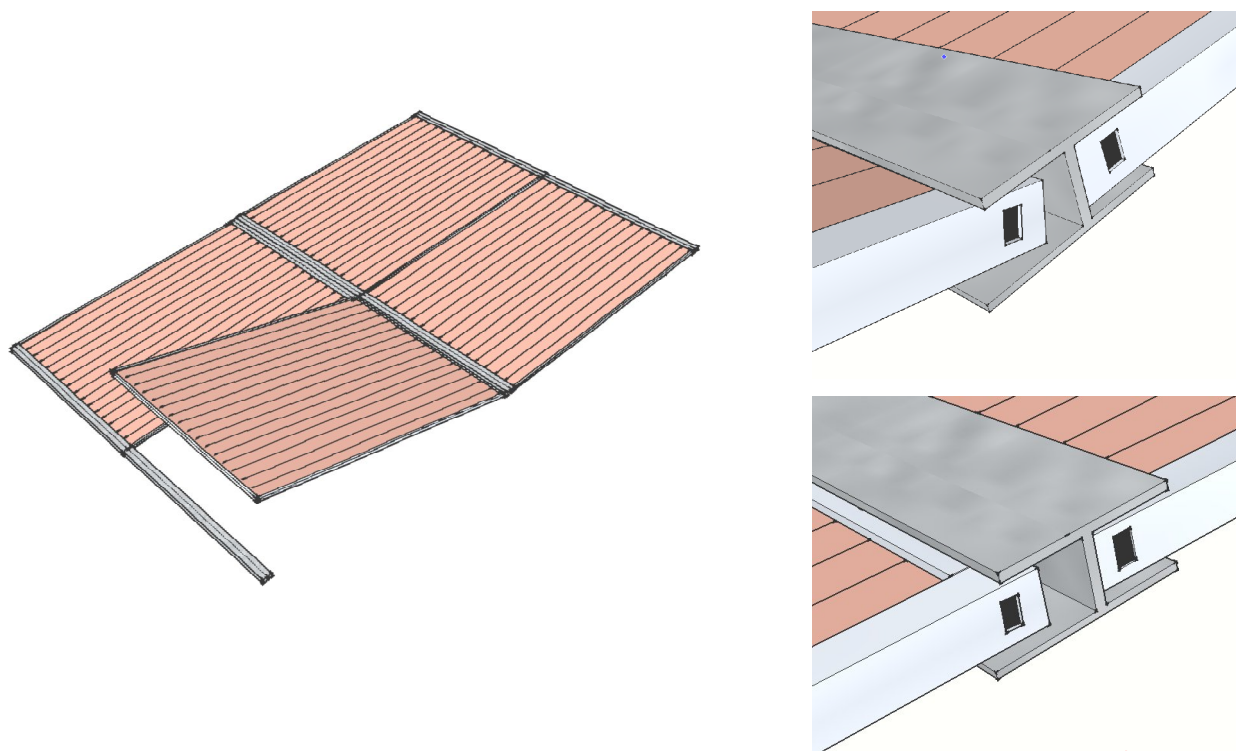

Fig.6 Mounting method - Insertion system
- The PV module must be supported along the length of the short edge, it can be mounted by using support frame as following steps (Fig. 6):